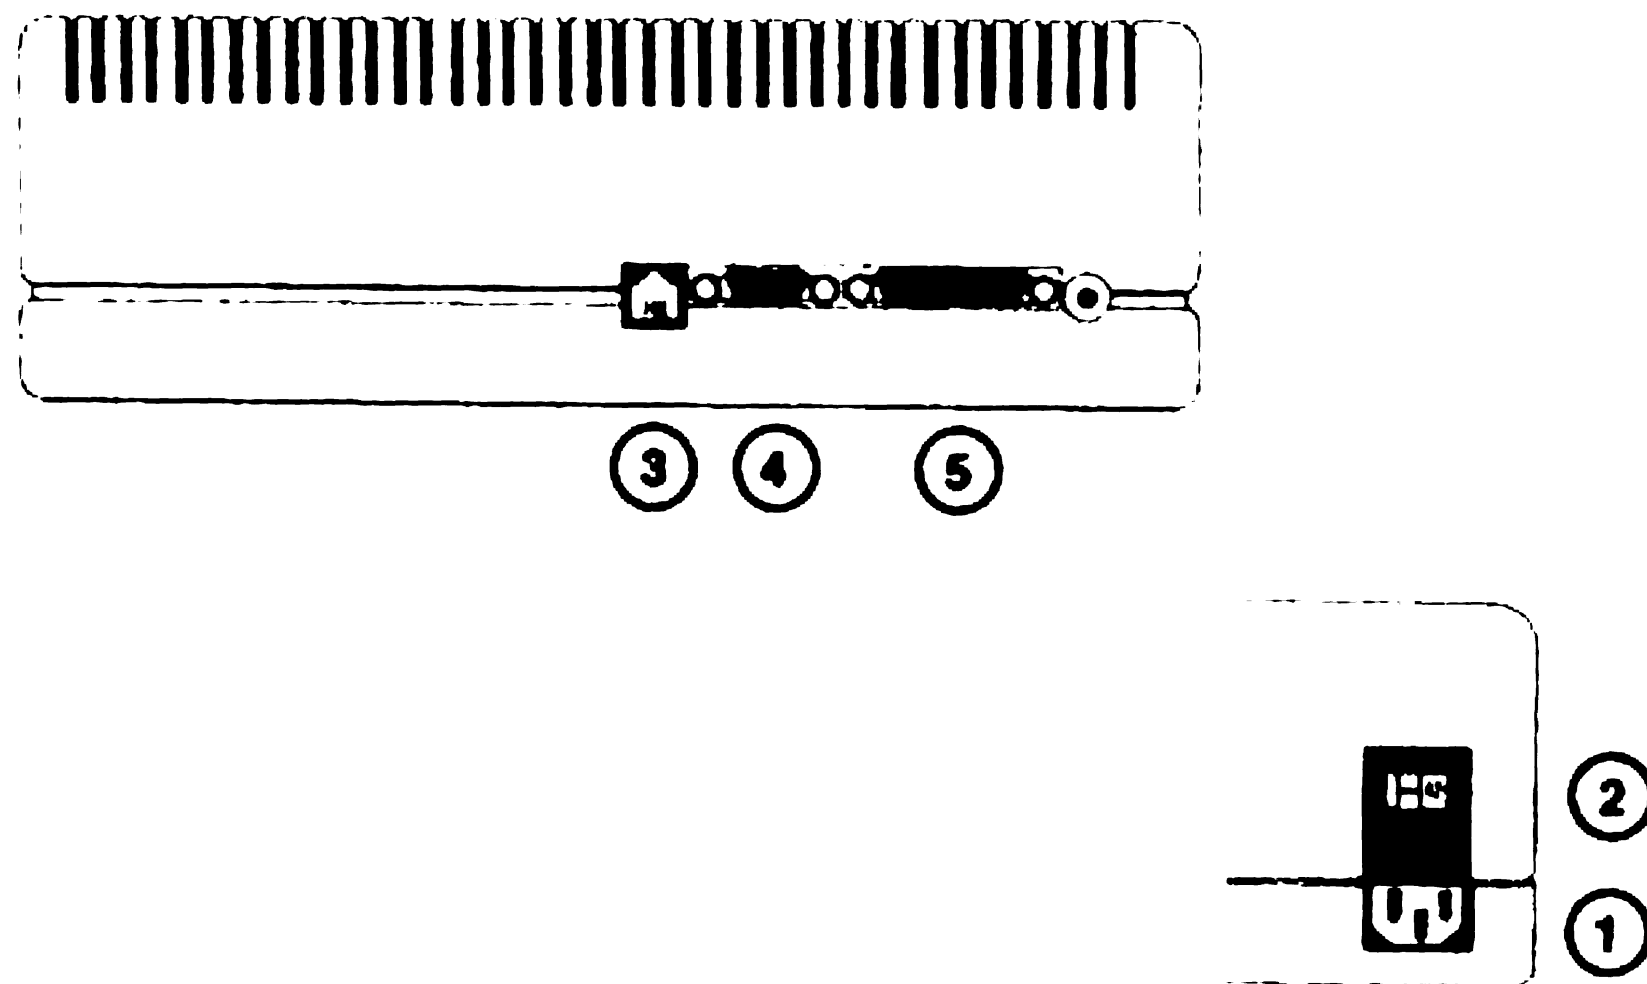

Figure 2 Connector Locations on the 213AE
1. The illustration in **Figure 2** shows where all the connectors and switches are located on the 213AE. The following pages explain how each connector and switch is used.
Connecting cables as illustrated in Figure 2: